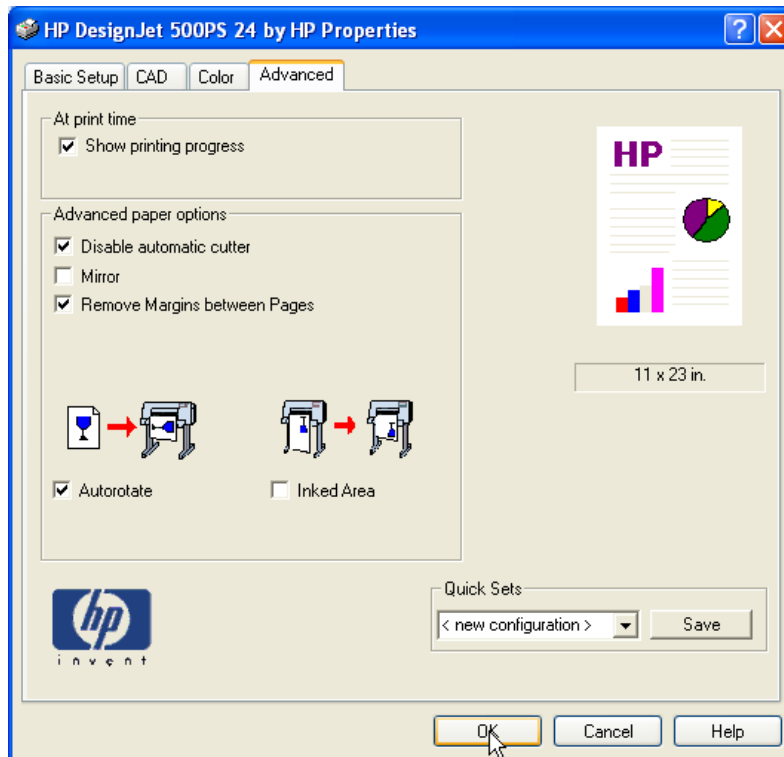

Figure 3
10.) Power*Curve printing (landscape page orientation). Now **click on the Advanced tab** to define the final output of your log. There are several things you can do here. Disable the cutters for a horizontal log, remove the page margins and auto rotate the image to print a continuous log and waste a log of paper. **Figure 3** Or none of the above to save paper **Figure 4**.